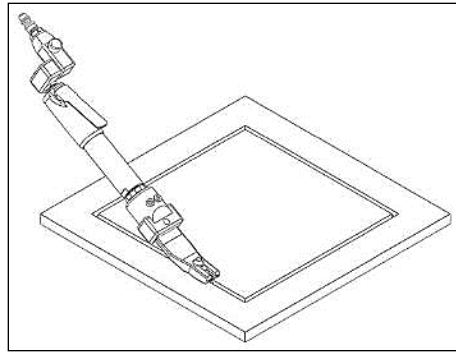

Figure 7. Tool and Gap Alignment
- 3.2.1. Line up the TGB with the gap containing the filler to be removed. See **Figure 7**.